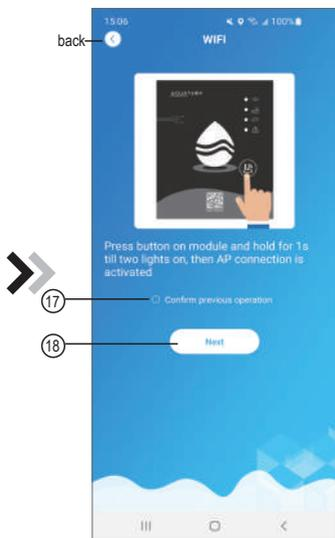

Fig.22 WIFI Module On interface
1. Click ①6 to confirm the permission of bluetooth, location and camera;
2. Follow the instructions on the page (Fig.22), press button on module and hold for 1s till two lights on, then AP connection is activated, click ①8 to next;
3. Click ①9 to enter the WIFI password for the current connection, click ②0 to confirm.